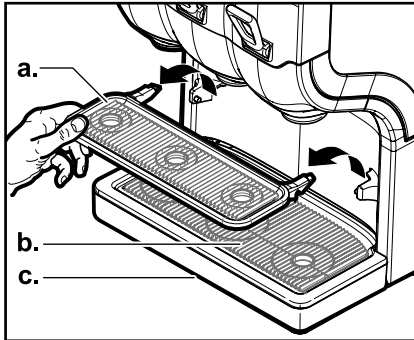

Fig. 23
2. Remove cup tray (a.), drip grid (b.), and drip tray (c.), (fig. 23)